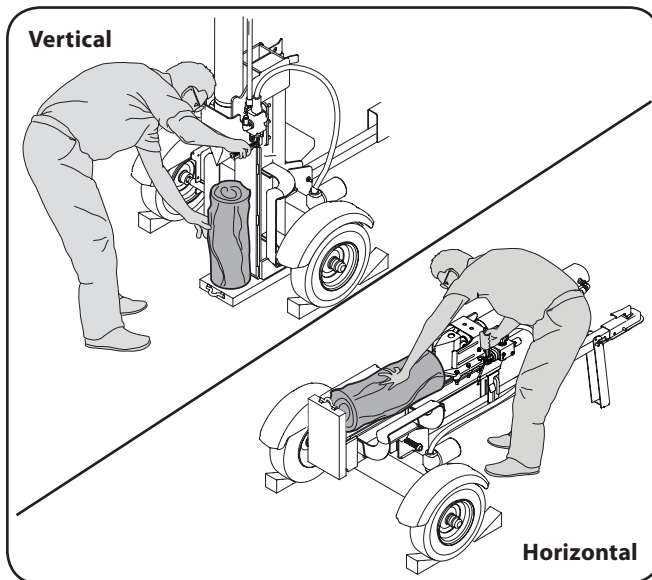

Figure 2-1
6. Always operate this machine from the operator zone(s) specified in the manual. See Fig. 2-1.
- a. Horizontal Operating Position: Stand on the control lever side of the log splitter and stabilize log as shown, if needed. See Fig. 2-1.
- b. Vertical Operating Position: Stand in front of the log splitter and stabilize log as shown, if needed. See Fig. 2-1.